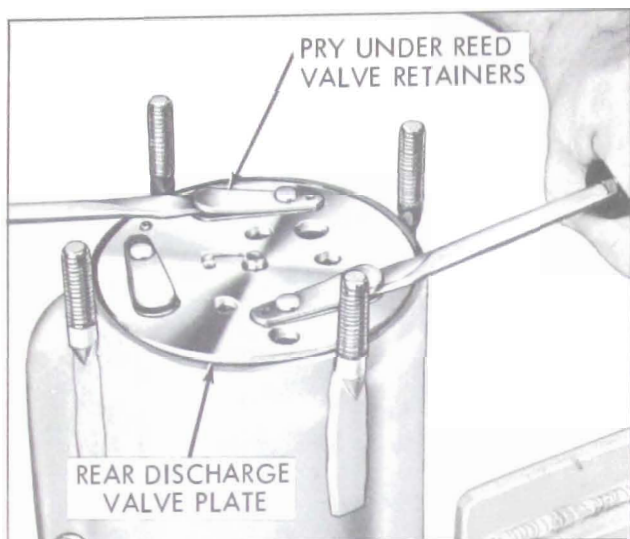

Figure 11-94—Removing Rear Discharge Valve Plate
16. Carefully remove rear discharge valve plate assembly by prying up on assembly as shown with screwdrivers and examine discharge valve reeds and seats. See Figure 11-94. Replace entire assembly if excessively scored or if any one of the three reeds or seats are damaged.